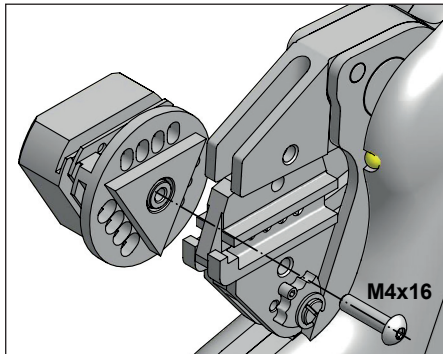
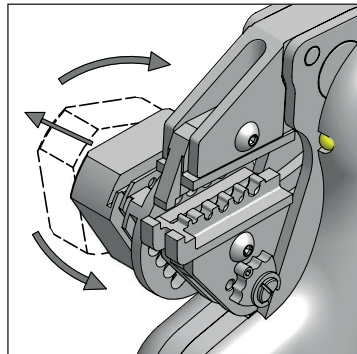

Figure 8
Figure 9
### 8.1.2.2 Example for rotated contacts (Figure 8, 9)
5. Place the positioning guide onto the M4x16 screw as shown in Figure 8 and secure using the thread contained in the locator. (Figure 9)